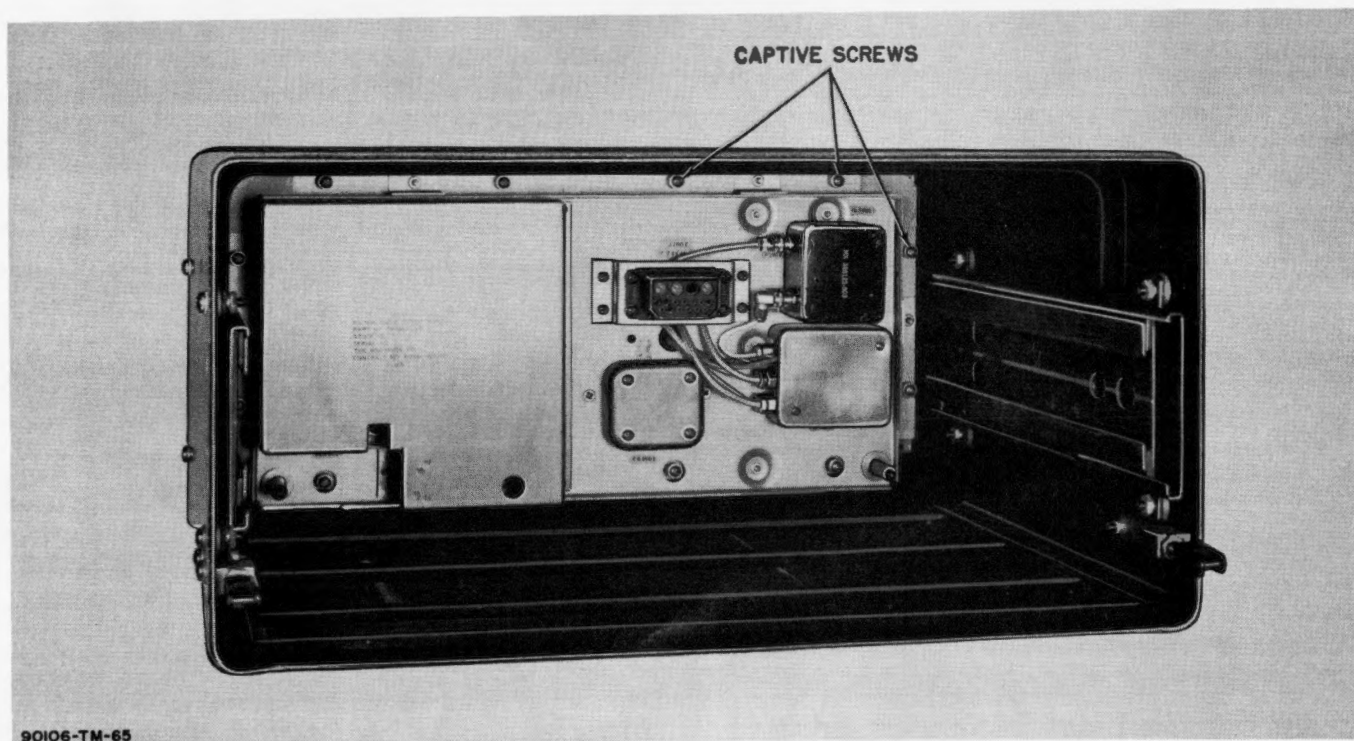

Figure 6-12. Removal of Radio Interference Filter
n. REMOVAL OF RADIO INTERFERENCE FILTER (see figure 6-12). - To remove the radio interference filter proceed as follows:
- (1) Remove the receiver from its cabinet.
- (2) Disconnect the cables at the rear of the receiver cabinet.
- (3) Loosen the 12 captive screws, located on the inside of the cabinet, which secure the filter assembly to the receiver cabinet.